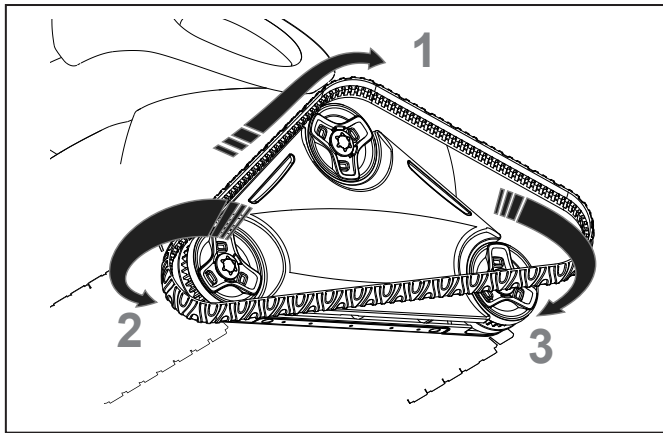

Figure 22. Stretch Track Around Wheels
- Stretch the track around the second wheel, then pull over the last wheel (see Figure 22). Push and position the rib of the track so that the track is seated properly in the groove of the wheel.